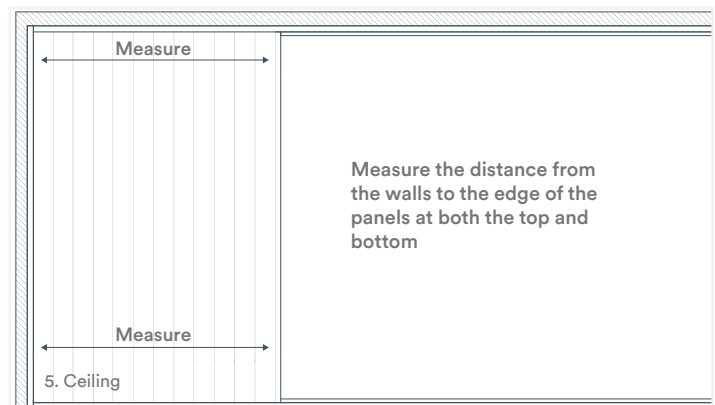

Fig. 8
5. Lift the panel into position and ensure it is parallel to the outside wall before fastening. To do this, measure the distance from the wall to the edge of your panels at both the top and bottom of the panel. If the measurements are uneven, you will need to correct the positioning of your panel (Fig 8).